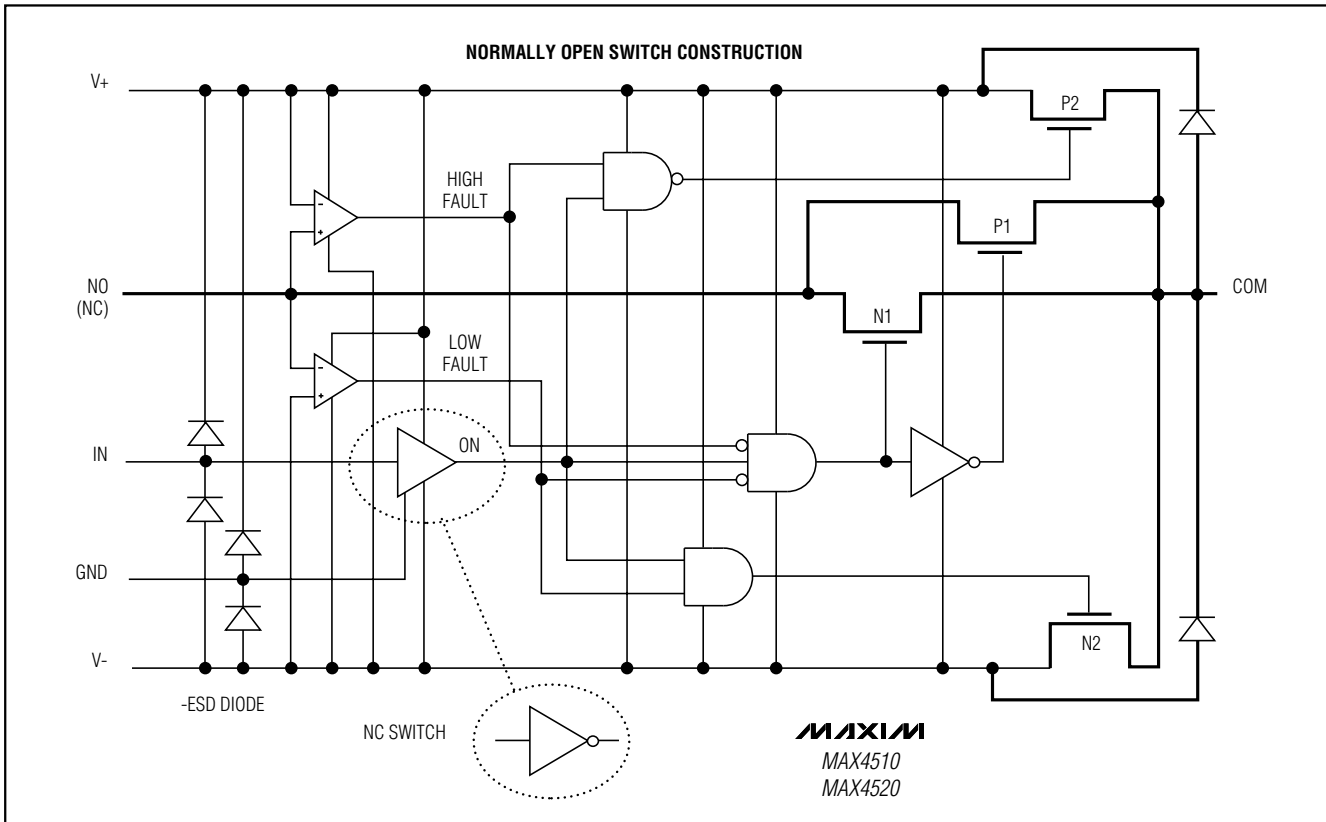

Figure 1. Functional Diagram
Internal construction is shown in Figure 1, with the analog signal paths shown in bold. A single normally open (NO) switch is shown; the normally closed (NC) configuration is identical except the logic-level translator becomes an inverter. The analog switch is formed by the parallel combination of N-channel FET N1 and P-channel FET P1, which are driven on and off simultaneously according to the input fault condition and the logic-level state.